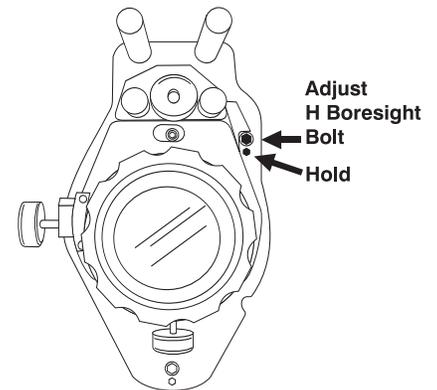

Figure 2.30. Adjust L/R Boresight
3. Adjust the horizontal boresight bolt (Figure 2.30) as necessary to direct or “aim” the lens toward the side of the image which focused too close to the lens. When both sides appear equally blurry, re-focus on the left side of the screen.